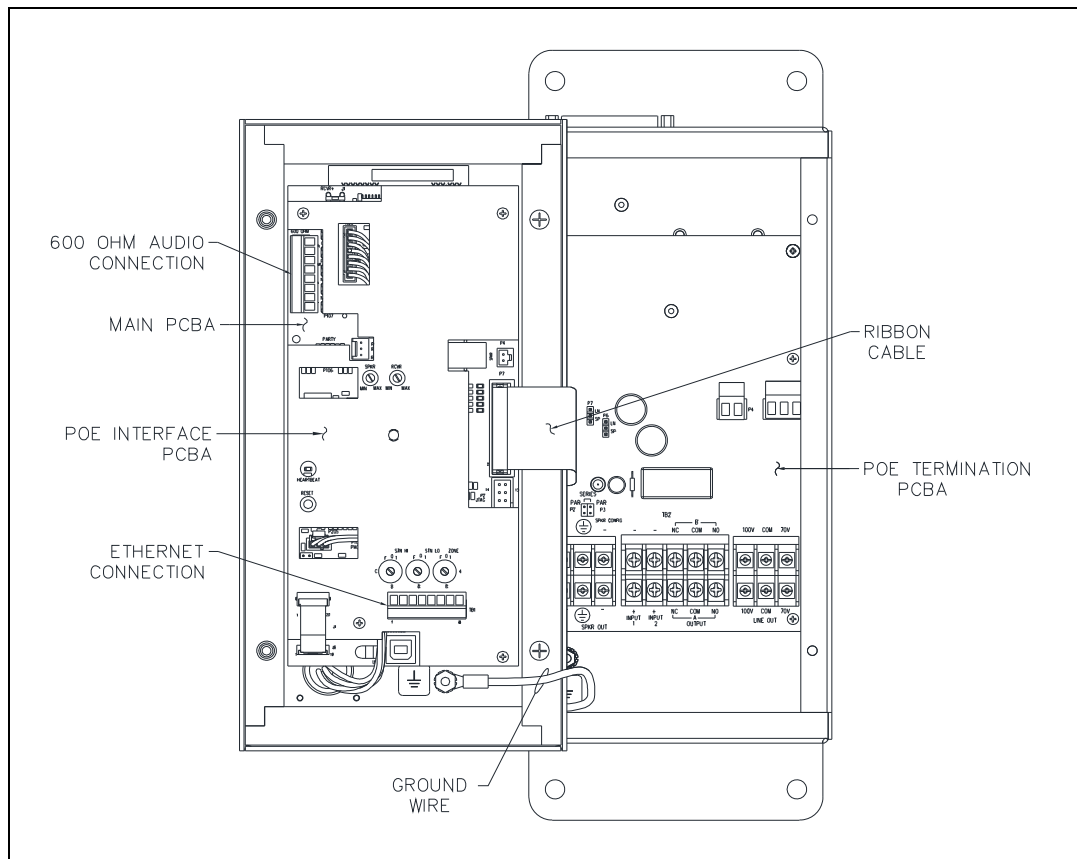

Figure 9. SP2 PoE Remote Subset Station—Interior View
3. Mount the front panel to the rear enclosure using two of the screws just removed (see Figure 9).